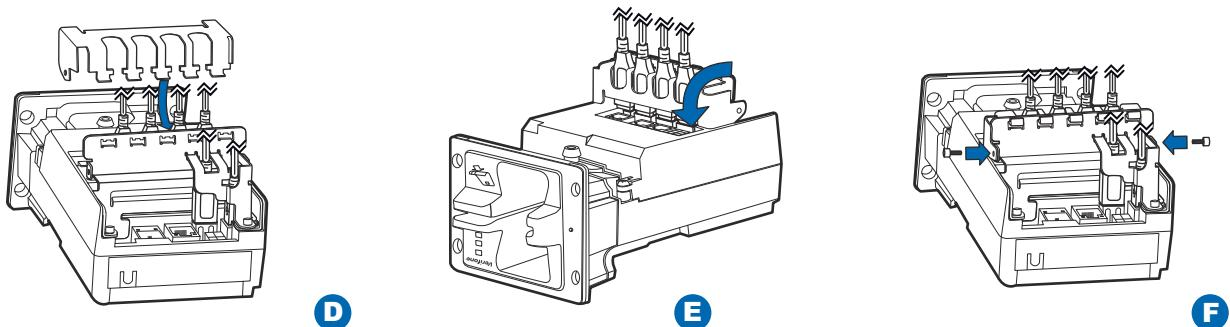

Figure 16 Installing Third Cable Retainer
- 4 Slot the third retainer's legs in the holes of the main retainer, over the installed USB cables on the model-dependent board. See D in Figure 16.
- 5 Swing the retainer down to lock in place over the USB cables and make sure the screw holes align with the main cable retainer. See E in Figure 16.
- 6 Secure the retainer with two hex screws to lock the USB cables in place. See F in Figure 16.